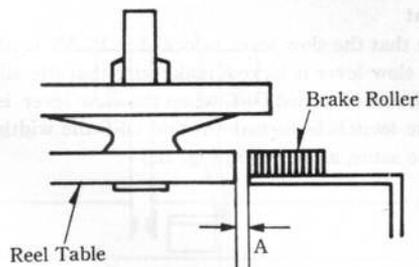

Fig. 16
- d. The clearance (A) between the reel table and the brake shoe shall be 1 mm in PLAY mode. (Fig. 16.)
- f. The tolerance (B) shall be 0.3 mm or more in STOP mode.